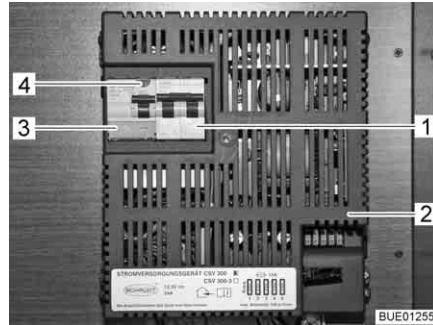

Fig. 126 230 V automatic circuit breaker and FI-switch (CSV 300)
A fault current protection switch (FI-switch) (Fig. 126,3) in the power supply unit CSV 300 (Fig. 126,2) protects the complete vehicle from fault current (0.03 A).
A downstream two-pole safety cut-out (Fig. 126,1) in the power supply unit protects the 230 V power supply.
- When the vehicle is connected to the 230 V power supply, press the test button (Fig. 126,4). The fault current protection switch (FI-switch) must trip.